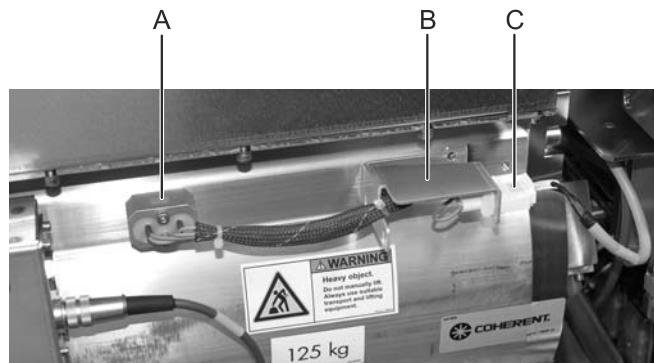

Figure 35: Tube overtemperature switch and connection
Exchange the overtemperature switch (see Figure 35, A) and connector (B) on the laser tube.
2. Disconnect the tube overtemperature switch cable connection (see Figure 35, C).
4. Use the 3 mm allen key to unscrew and remove the overtemperature switch (see Figure 35, A).